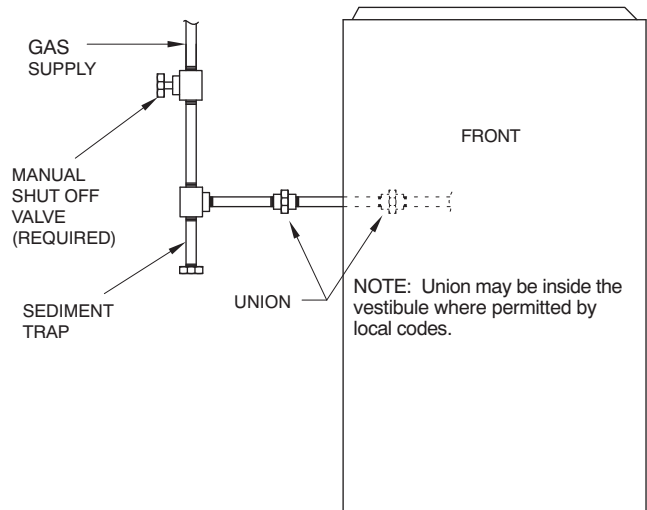

Fig. 32 - Typical Gas Pipe Arrangement
Install a sediment trap externally in the riser leading to furnace as shown in Fig. 32. Connect a capped nipple into lower end of tee. Capped nipple should extend below level of furnace gas controls. Place a ground joint union between furnace gas control valve and exterior manual equipment gas shutoff valve.
11. Connect field power and neutral leads to furnace power leads inside the external electrical box as shown in Fig. 32.